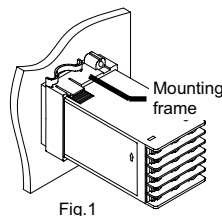

Fig.1
- Push the mounting frame forward until the frame is firmly secured to the panel. (Fig.1)